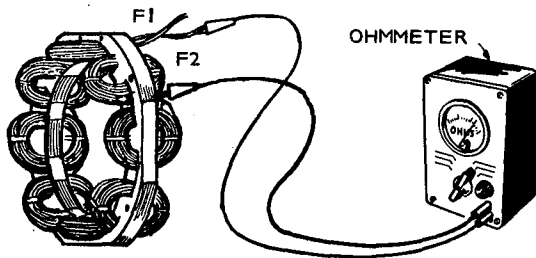

FIGURE 15. TESTING FOR GROUNDS
**Testing for grounds:** Using an ohmmeter (R x 100 scale), measure the insulation resistance between either lead F1 or F2 and the laminations. A reading of less than infinity indicates a ground. See Figure 15.